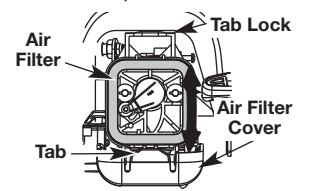

Fig. 32
1. Open the air filter cover. Push the locking tab on the top of the cover inward, then pull the air filter cover out and down. (Fig. 32).
2. Remove the air filter (Fig. 32).
7. Reinstall the air filter cover. Position the slots on the bottom of the air filter cover onto the tabs at the bottom of the back plate (Figs. 32).
8. Swing the cover up until the tab on the air filter backplate snaps into place in the slot on the air filter cover (Fig. 32).